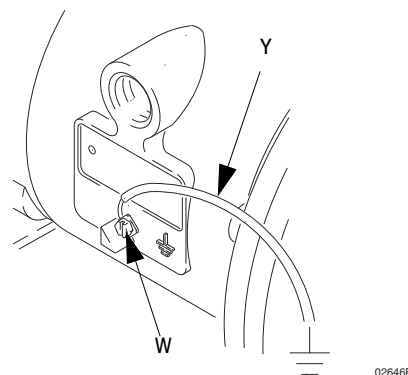

FIG. 1
- Pump:* Connect a ground wire and clamp as shown in Fig. 1. Loosen the grounding screw (W). Insert one end of a 12 ga (1.5 mm²) minimum ground wire (Y) behind the grounding screw and tighten the screw securely. Connect the clamp end of the ground wire to a true earth ground. Order Part No. 238909 Ground Wire and Clamp.